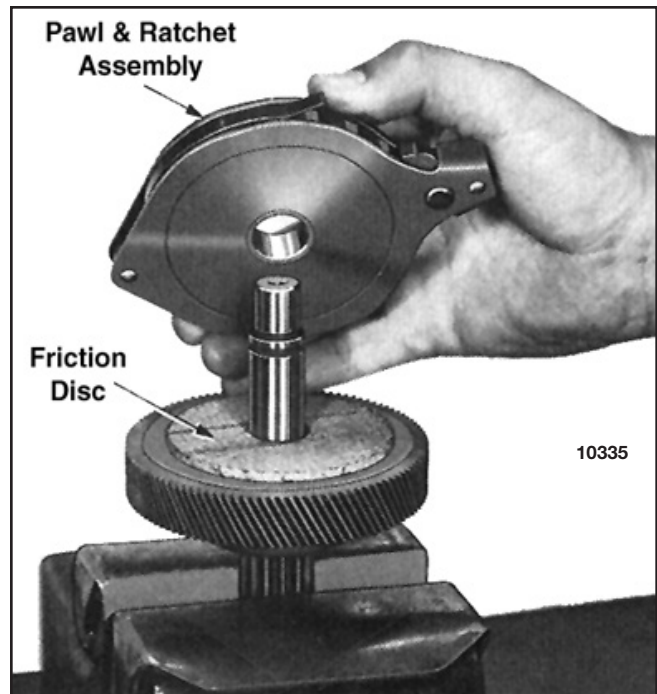

Figure 7-23. Removing Pawl and Ratchet Assembly from Load Brake Shaft
2. Using a puller tool, remove brake flange from shaft. A groove is provided around outer diameter for this purpose. See figure 7-22. Remove key from shaft and lift off 2 friction discs, and the pawl and ratchet assembly (fig. 7-23).
4. When installing pawl and ratchet assembly on load brake shaft, be certain that teeth on ratchet face are in the same direction as shown in fig. 7-23. The ratchet assembly should rotate freely when turned counterclockwise and the pawl should engage ratchet teeth when unit is turned clockwise.